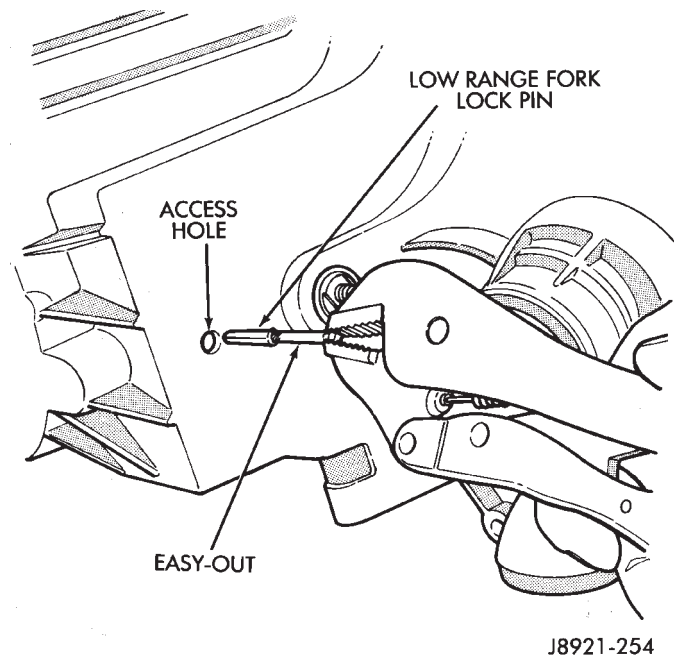

Fig. 23 Low Range Fork Lockpin Removal
- (2) Remove seal plug from low range fork lockpin access hole. Then move shift sector to align low range fork lockpin with access hole (Fig. 23).
- (3) Remove range fork lockpin with size number one easy-out tool. Grip easy-out tool with locking pliers and remove pin with counterclockwise, twist and pull motion (Fig. 23).